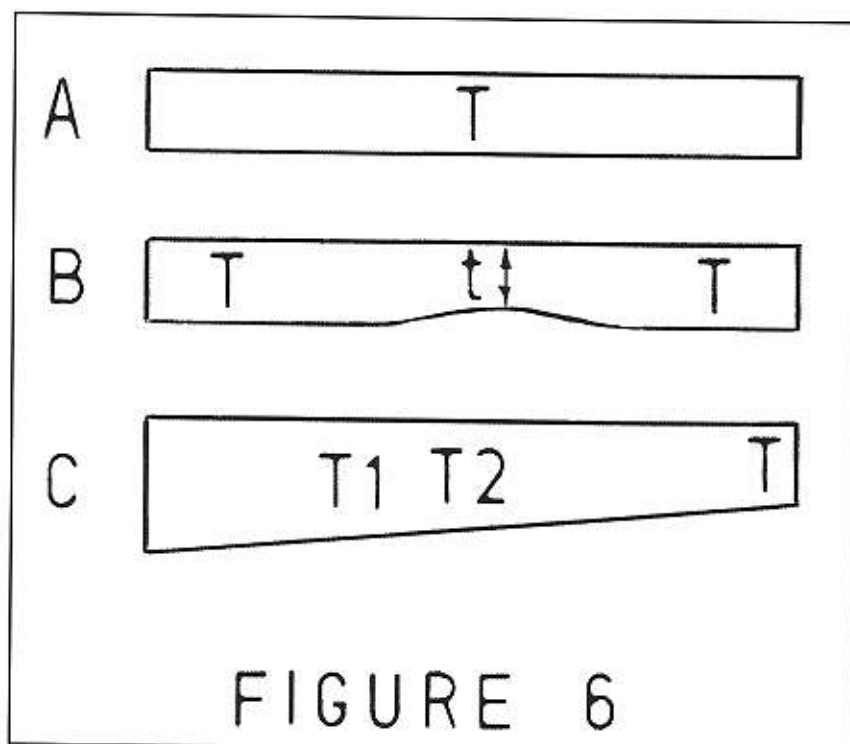

Fig 6. Thickness for Different Tooth Shapes.
Let us consider the implications of applying ref 1 in our attempt to gradually increase thickness of each tooth towards its root, also across the comb towards bass. Fig 6 shows a selection of cross-sections of simplified teeth of various combinations of thickness. A represents a tooth of